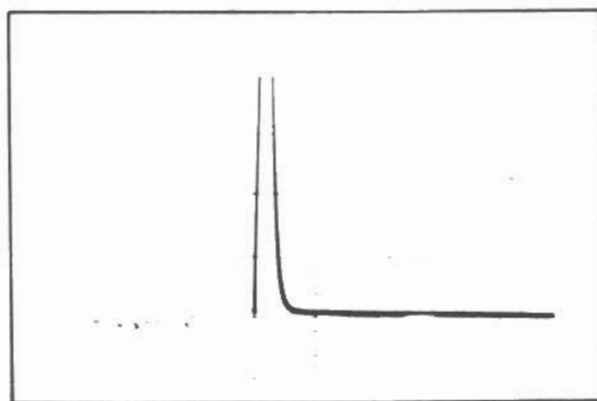

Figure 5.2. Pole Zero Adjustment, AMP OUTPUT (.5V/div., 20 $\mu$ sec/div.)
- b. Observe the UNIPOLAR OUTPUT on the scope and adjust the P/Z control so that the tail of the Gaussian pulse returns to the baseline as fast as possible with NO under or overshoot, as in Figure 5.2.